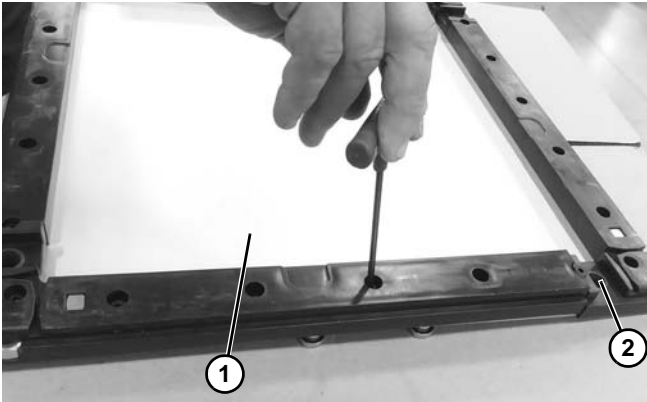

Figure 74
2. Remove corner skirt from top plate (**Figure 74, item 1**). Make sure not to lose sleeve (**Figure 74, item 2**) at the point where two corner skirts meet.